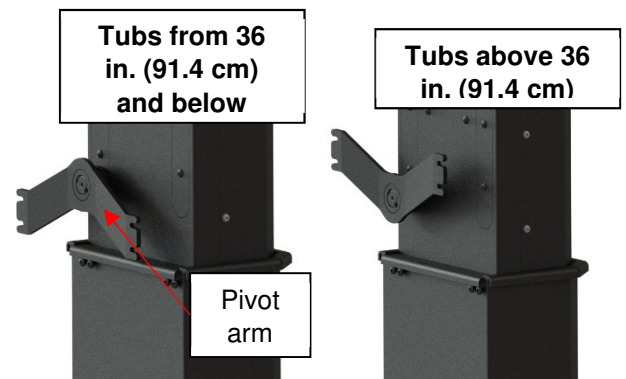

Figure 71
- 1) Insert the pivot arm on the shaft behind the first post. For tubs from 36 in. (91.4 cm) high and below, place the pivot arm with the V pointing up and for tubs above 36 in. (91.4 cm) high, place the pivot arm with the V pointing down. (Figure 71)